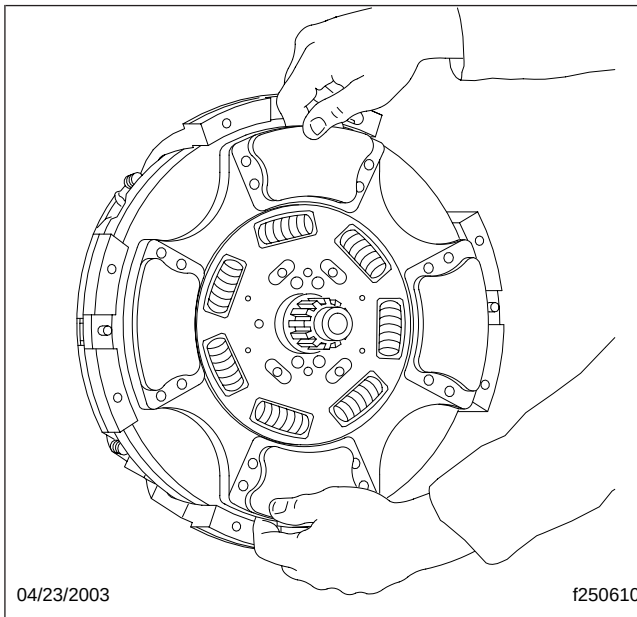

Fig. 5, Installing the Front Driven Disc
5. Install the front driven disc on the aligning tool, with the side stamped *INTERMEDIATE PLATE SIDE* facing the intermediate plate. See Fig. 5.